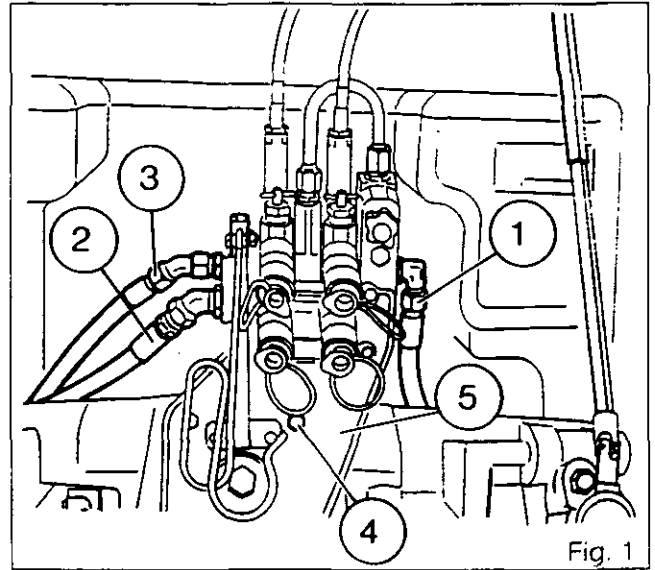

Fig. 1
1. Disconnect (Fig. 1) :
- the auxiliary spool valve supply hose (1)
- the supply hose of the lift valve (3)
- the return hose (2)
2. Remove the bolts (4) of the auxiliary spool valve support (5) (Fig. 1).
17. Smear the threads of the two lower bolts (4) with Loctite 510. Fit and tighten the bolts (4) to a torque of 50-70 Nm (Fig. 1).
18. Reconnect (Fig. 1):
- . the spool valve supply hose (1)
- . the supply hose of the lift valve (3)
- . the return hose (2).